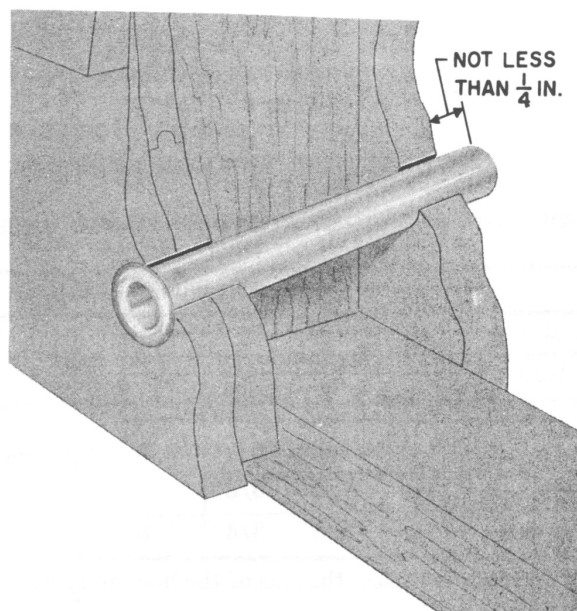

Fig. 18 — Placing Tube
13.01 Use plastic tubes at building entrance holes for drop wire where fused protection is required and the wire passes through a flammable surface. Place tube as shown in Fig. 18. Cut plastic tubes with a hack saw or diagonal pliers. Do not use split tubes at entrance holes.